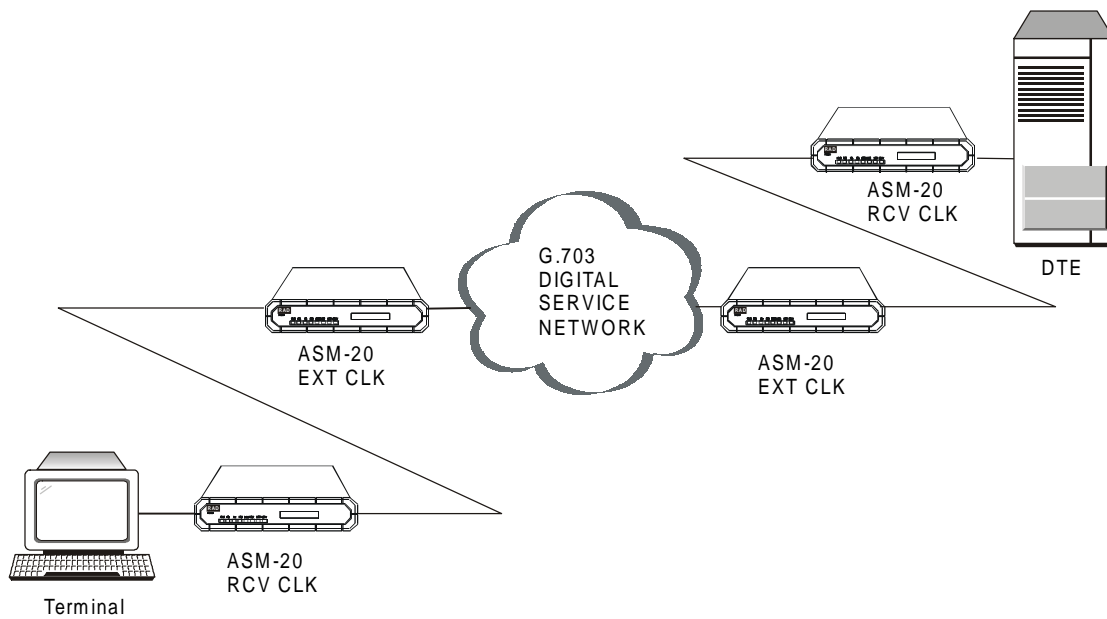

Figure 1-2 G.703 Modem Link Application
- Modem link application (see *Figure 1-2*)